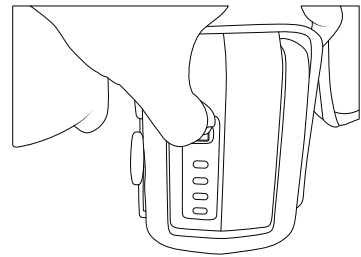

Fig. 9
4. Verify the charge level of the battery pack by pressing the power level indicator button on the front of the pack. (**Fig. 9**). Four lights (one red and three green) indicate a fully charged battery. Unplug battery from charger and unplug cord from wall outlet after charging.